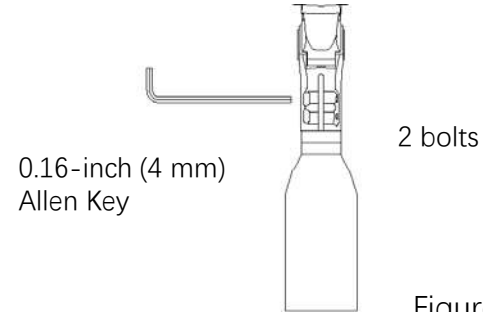

Figure 13.
5. Use the 4 mm Allen key to alternately tighten the 2 bolts on the side of the handlebar stem until fully locked, as shown in Figure 13.